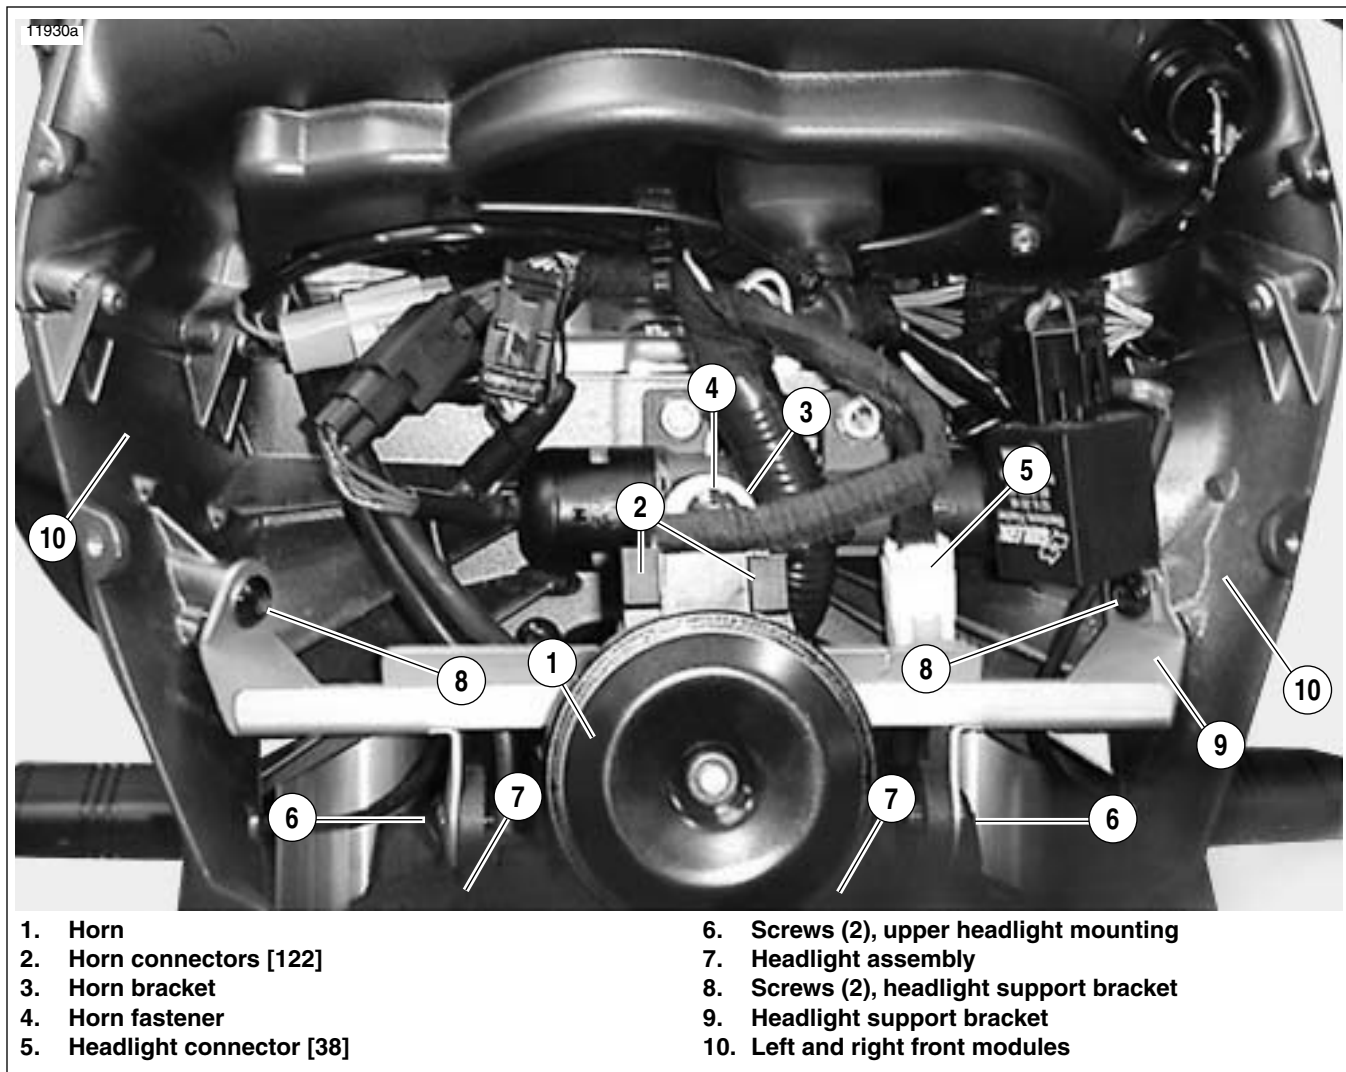

Figure 2-108. Headlight and Support Bracket
4. See Figure 2-108. Disconnect horn connectors [122] (2).
5. See Figure 2-108. Separate headlight connector [38] (5).
6. Remove female connector [38B] from support bracket (9) by sliding connector up and off of bracket clip.
7. Remove both upper headlight fasteners (6).